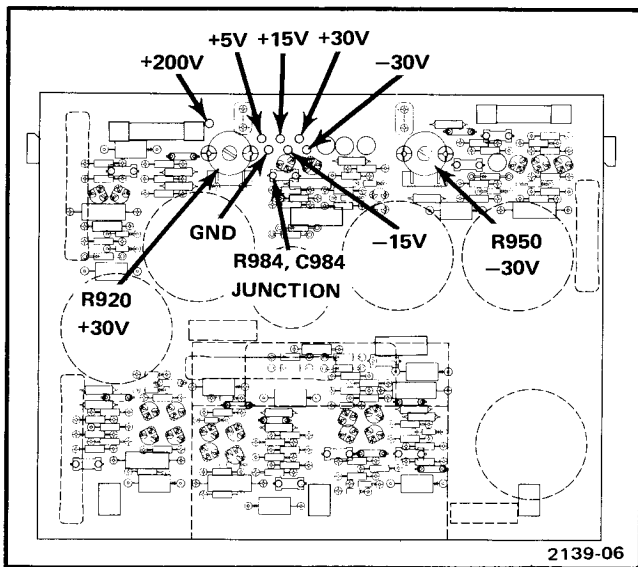

Fig. 5-1. Location of power supply test points and -30, +30-volt adjustments.
- b. Connect the digital voltmeter between -30 V test point on the LV power supply circuit board and chassis ground. See Fig. 5-1 for voltage test point location.
- d. ADJUST—-30 Adj R950 for a meter reading of -30 volts. See Fig. 5-1 for adjustment location.
- a. Connect the digital voltmeter between +30 V test point on the LV power supply circuit board, and chassis ground. See Fig. 5-1 for voltage test point location.
- c. ADJUST—+30 Adj R920 for a meter reading of exactly +30 volts. See Fig. 5-1 for adjustment location.
- a. CHECK—Each supply with the digital voltmeter to ensure that all output voltages are within the limits given in Table 5-1. See Fig. 5-1 for voltage test point locations.
- a. Connect the digital voltmeter between the CALIBRATOR current loop and a ground test point. See Fig. 5-1 for ground test point location.
- b. Apply a ground connection (short circuit) between the junction of R984 and C984 and a ground test point on the low-voltage and calibrator board. See Fig. 5-1 for the junction and ground test point location.